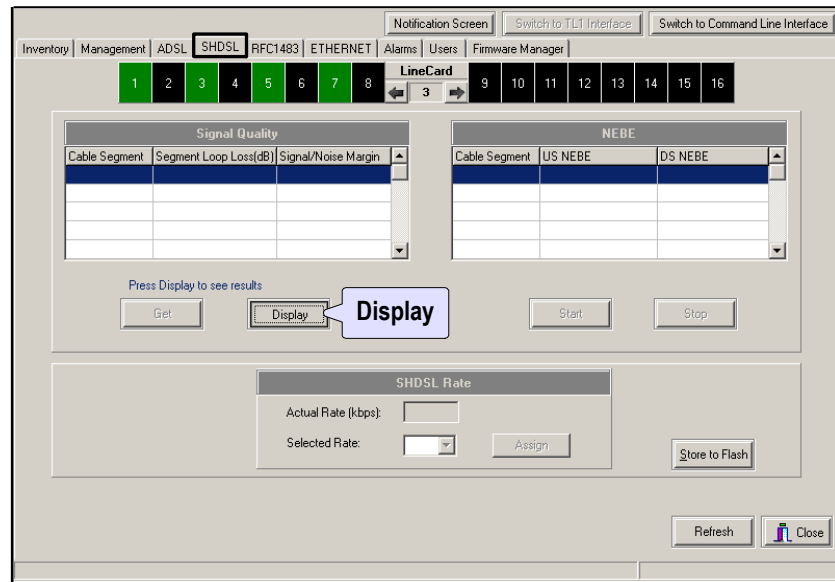

Figure 63 – Display performance data
- 4 Click **Display** (Figure 63).